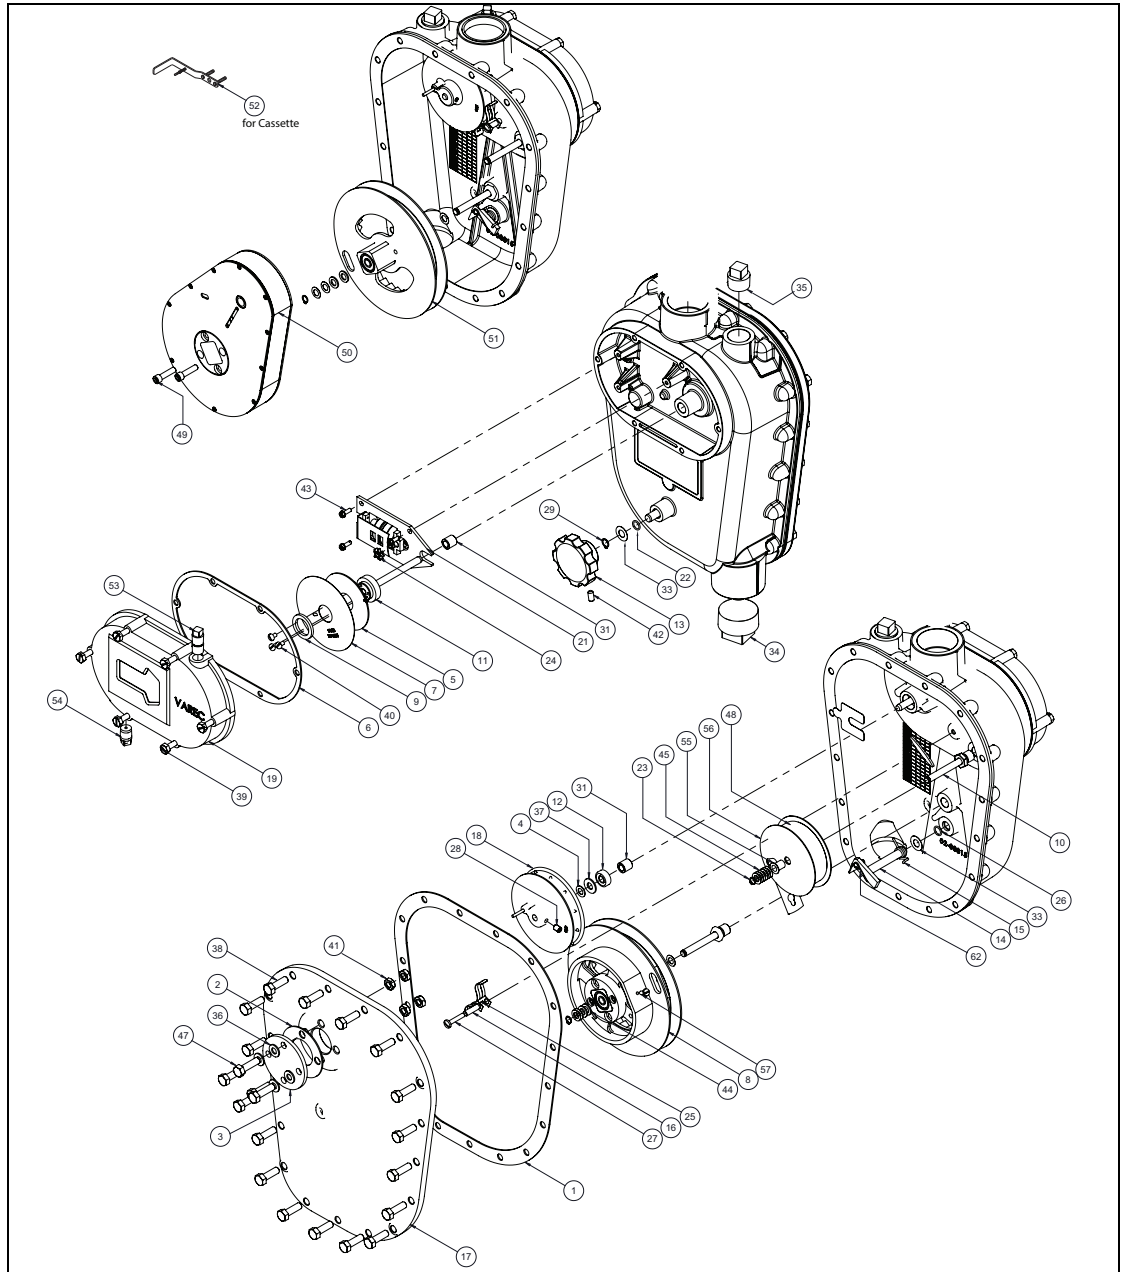
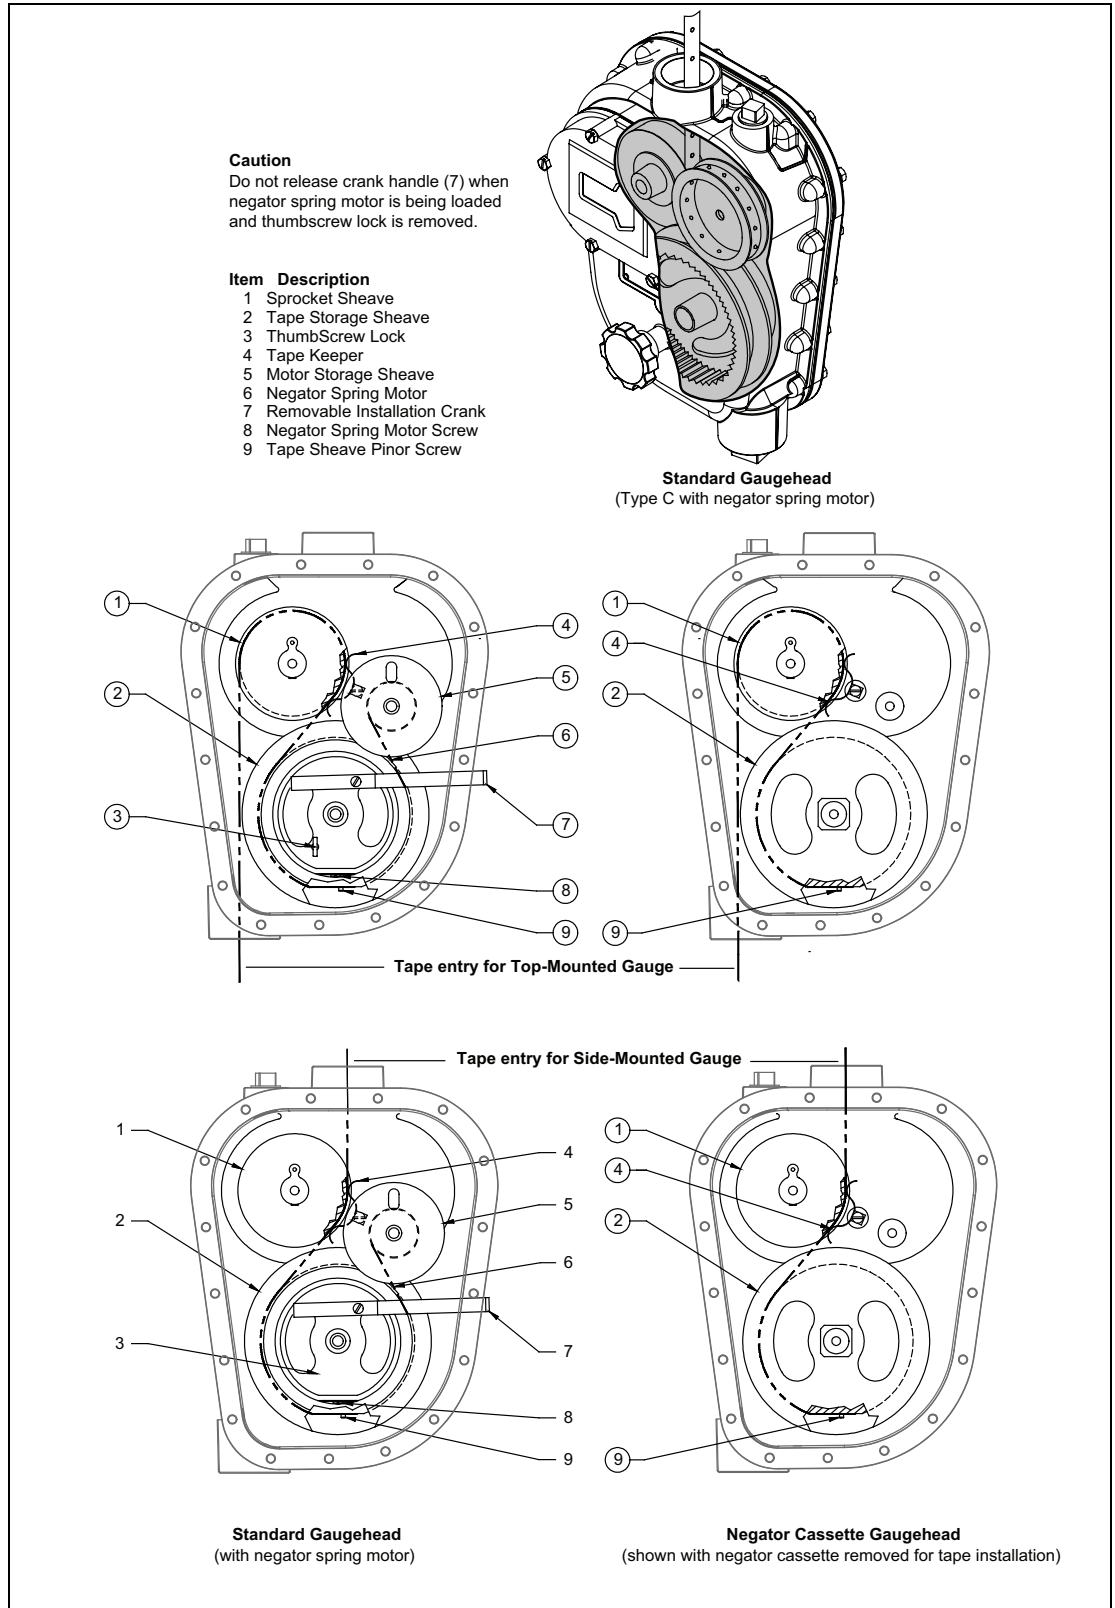

Figure 44: 2500 ATG (Type C) Gauge Head Spare Parts
Figure 45: Tape Routing
Figure 44 is key to understanding the disassembly/reassembly procedure. The small numbers in parentheses (for example, (12)), refer to the item numbers in this figure. References in the following procedures are directed to this figure, unless otherwise indicated.
12. Unwind the motor spring onto the motor storage sheave (Figure 45).
Unless otherwise labeled, numbers in parentheses, (12) for example, refer to the item callout numbers on Figure 44 or Figure 45.